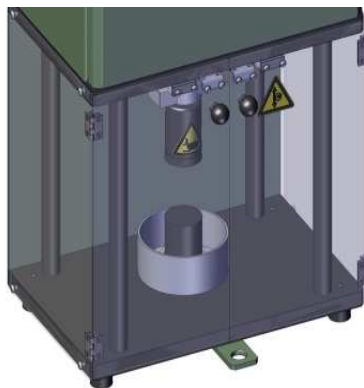

Figure 6.2.2
3. Center the flat surface of the prepared test specimen on the Pedestal and close the Protection Doors (Figure 8.1, Item 5) (see Figure 6.2.2).